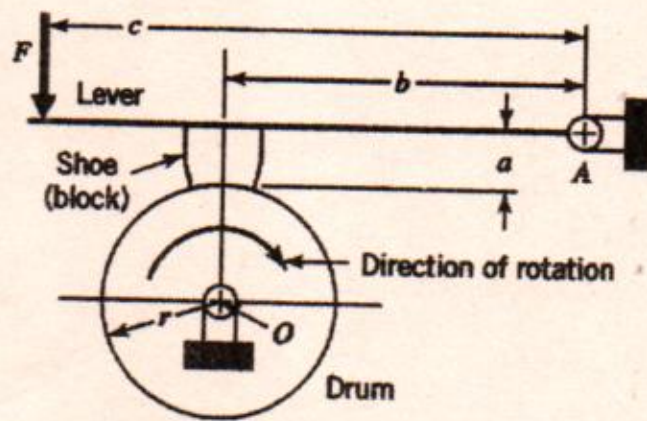

Figure Q5: Brake assembly of external short-shoe drum brakes
1. An old vehicle uses external short-shoe drum brakes as brake mechanism. Schematic diagram of short-shoe drum brake system is shown as Figure Q5. Brake design value of friction coefficient (μ) = 0.2. Dimensions are $b = 100$ mm, $r = 250$ mm, $c = 150$ mm, $a = 20$ mm. The drum is rotating to clockwise direction and brake actuating force (F) is 200 N.
- b) Calculate the Normal Force (N) acting on shoe, (04 marks)
- c) Calculate the Brake Torque (T), (04 marks)